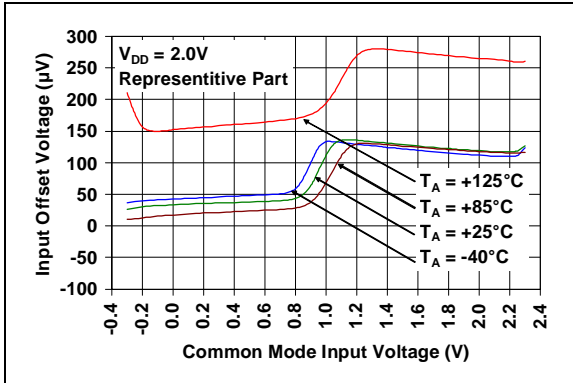

**FIGURE 1-1:** AC and DC Test Circuit for Most Specifications.
**Electrical Characteristics:** Unless otherwise indicated,  $T_A = +25^\circ\text{C}$ ,  $V_{DD} = 5.0\text{V}$ ,  $V_{SS} = \text{GND}$ ,  $V_{CM} = V_{DD}/2$ ,  $V_{OUT} \approx V_{DD}/2$ ,  $V_L = V_{DD}/2$  and  $R_L = 10\text{ k}\Omega$  to  $V_L$ . (Refer to Figure 1-1).
**Electrical Characteristics:** Unless otherwise indicated,  $T_A = +25^\circ\text{C}$ ,  $V_{DD} = +2.0\text{V}$  to  $+5.5\text{V}$ ,  $V_{SS} = \text{GND}$ ,  $V_{CM} = V_{DD}/2$ ,  $V_{OUT} \approx V_{DD}/2$ ,  $V_L = V_{DD}/2$ ,  $R_L = 10\text{ k}\Omega$  to  $V_L$  and  $C_L = 60\text{ pF}$ . (Refer to Figure 1-1).
The circuit used for most DC and AC tests is shown in Figure 1-1. This circuit can independently set  $V_{CM}$  and  $V_{OUT}$ ; see Equation 1-1. Note that  $V_{CM}$  is not the circuit's common mode voltage ( $(V_P + V_M)/2$ ), and that  $V_{OST}$  includes  $V_{OS}$  plus the effects (on the input offset error,  $V_{OST}$ ) of temperature, CMRR, PSRR and  $A_{OL}$ .